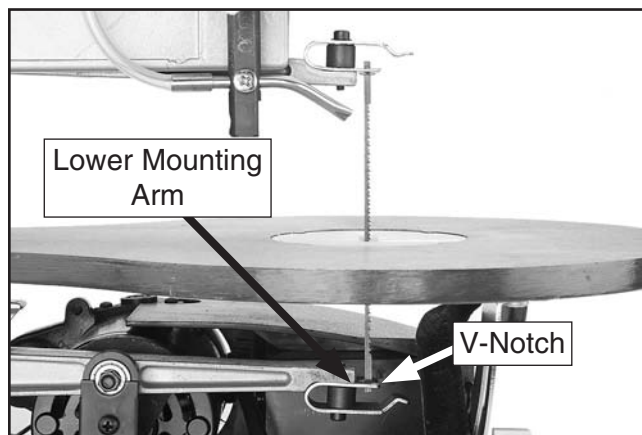

Figure 28. Pin-end blade properly installed on lower blade mounting arm.
7. Position the lower pin-ends underneath the V-notch in the lower blade holder, as shown in **Figure 28**.
8. While holding the adapter, press it down and install the other adapter on the lower mounting arm (see **Figure 28 on Page 23**).